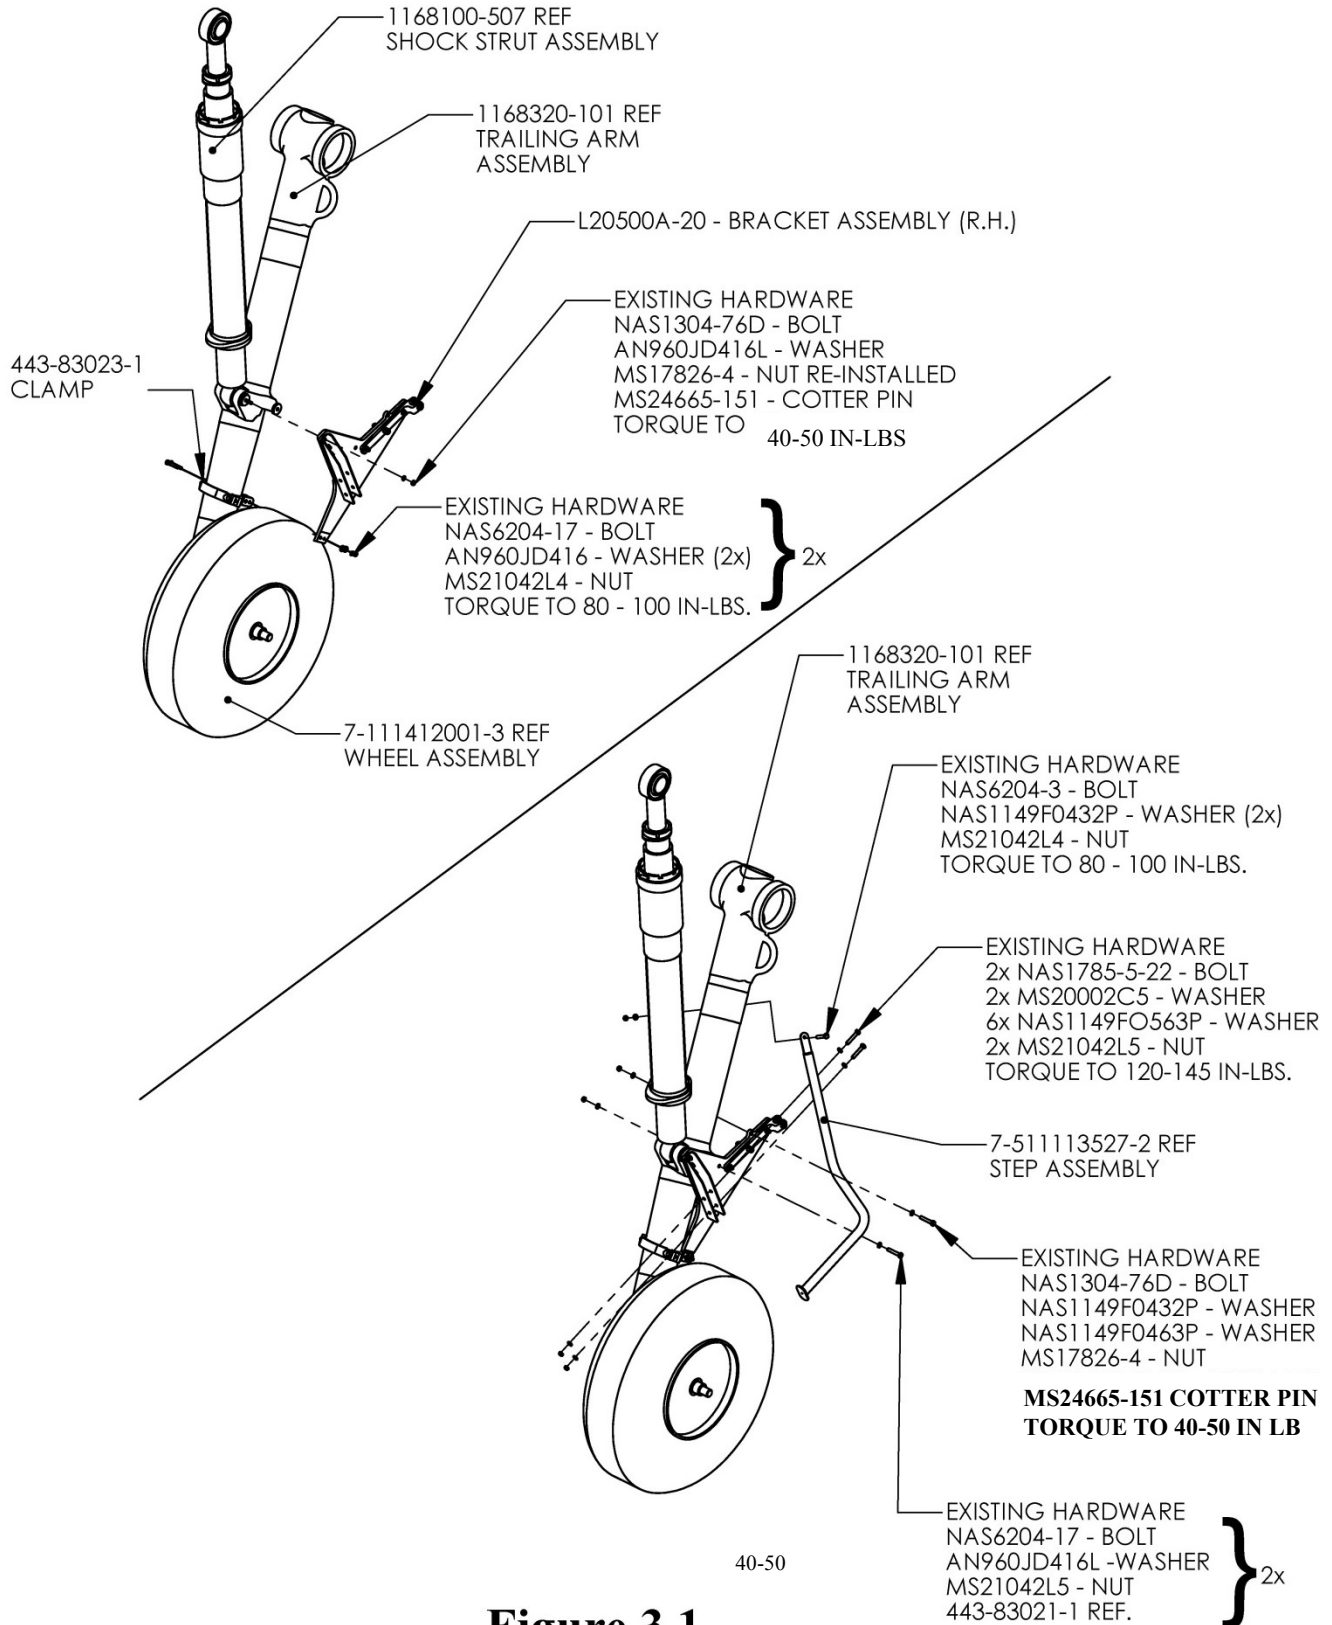

Figure 3.1
11. Attach Airglas Bracket Assembly (L20500A-20 R.H., L20500A-21 L.H.) to Main Landing Gear using existing hardware *See Figure 3.1* TORQUE VALUE
12. Bolt Bracket Assembly to Clamp (443-83023-1) (both sides) using existing hardware from Step 10. *See Figure 3.1*
SEE FIG 3.1 FOR SPECIFIC DETAILS ON HARDWARE AND TORQUE REQUIREMENTS